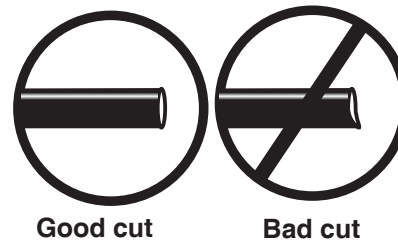

fig. 7
WHEN CUTTING OR TRIMMING THE AIR LINE, USE A HOSE CUTTER, A RAZOR BLADE OR A SHARP KNIFE. A CLEAN, SQUARE CUT WILL ENSURE AGAINST LEAKS. DO NOT USE WIRE CUTTERS OR SCISSORS TO CUT THE AIR LINE. THESE TOOLS MAY FLATTEN OR CRIMP THE AIR LINE, CAUSING IT TO LEAK AROUND THE O-RING SEAL INSIDE THE ELBOW FITTING (FIG. 7).
8. Cut off air line leaving approximately 12" of extra air line. A clean square cut will ensure against leaks (see fig. 7). Insert the air line into the air fitting. This is a push to connect fitting. Simply push the air line into the 90° swivel fitting until it bottoms out (9/16" of air line should be in the fitting).
- a. Check the air line connection by deflating the spring and removing the line by pulling the collar against the fitting and pulling firmly on the air line. Trim 1" off the end of the air line. Be sure the cut is clean and square (see fig. 7). Reinsert the air line into the push-to-connect fitting.